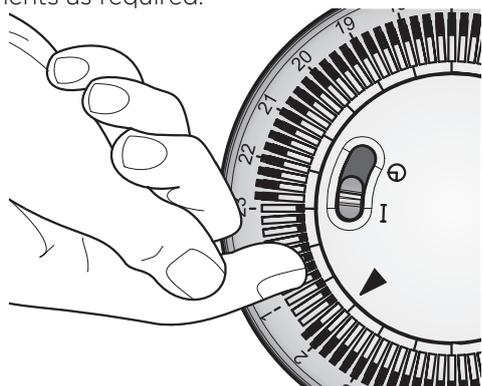

Fig. 5
- Using your finger tip or the tip of a pencil, push in as many segments as necessary around the dial, according to the times you don't require heat - see Fig. 5. Each segment pushed in switches the heater OFF for that part of the hour. All other segments will be ON. For example, Fig. 5 shows the timer set to switch the heater OFF between 11pm and 1.45am.
Check that the clock shows the correct time of day. Set the mode slide switch to **I**, the heater will switch ON and OFF according to the timer settings - see Fig. 5.